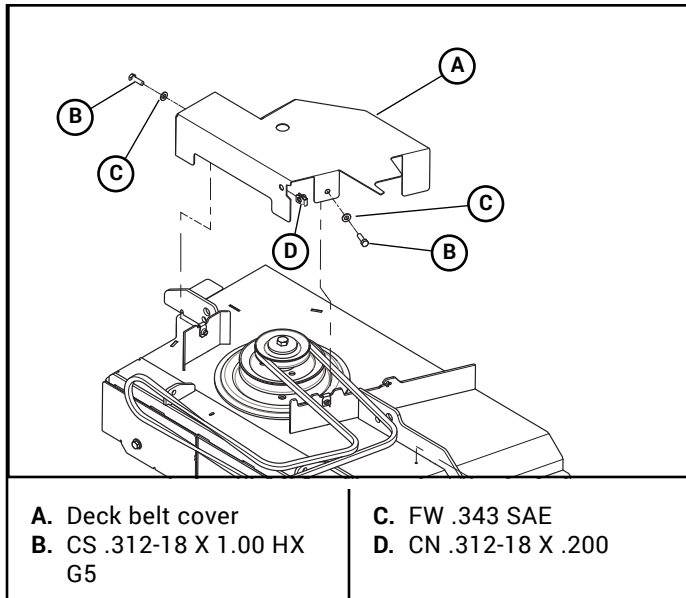

Figure 3-20
16. Attach the clip nuts to the deck belt cover. Figure 3-20
17. Attach the deck belt cover and the blower belt cover. Figure 3-20 & Figure 3-21